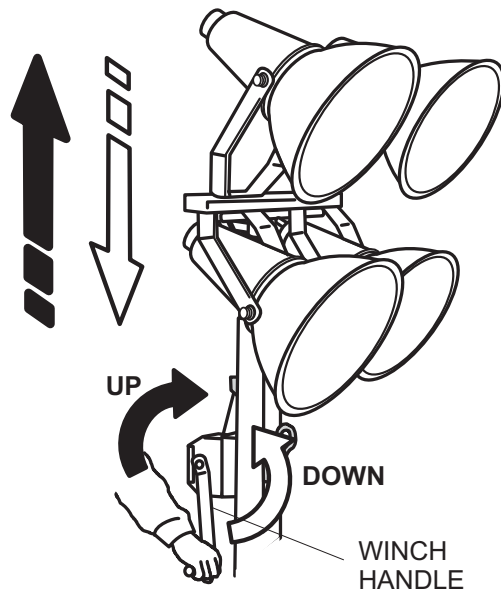

Figure 18. Adjusting Height of Light
1. Turn the handle of the mast winch clockwise to raise the lighting unit and turn the handle of the mast winch counterclockwise to lower the lighting unit (Figure 18).
1. Using the mast winch (Figure 18), **lower the mast fully.** Turn winch handle counterclockwise to lower mast.